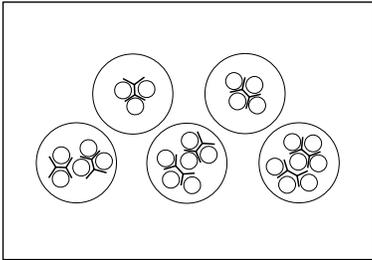
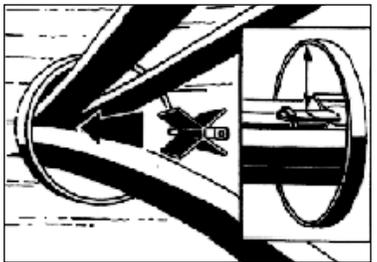

Figure 13
Figure 18
Figure 13 illustrates several different multiple cable configurations and branch clip locations .
6. Insert the clip between the cables, making sure that there is only one cable between each clip wing (see figure 13). Make sure that the central part of the clip is positioned where the cables come together (mark flush with duct entrance). (Figure 18)